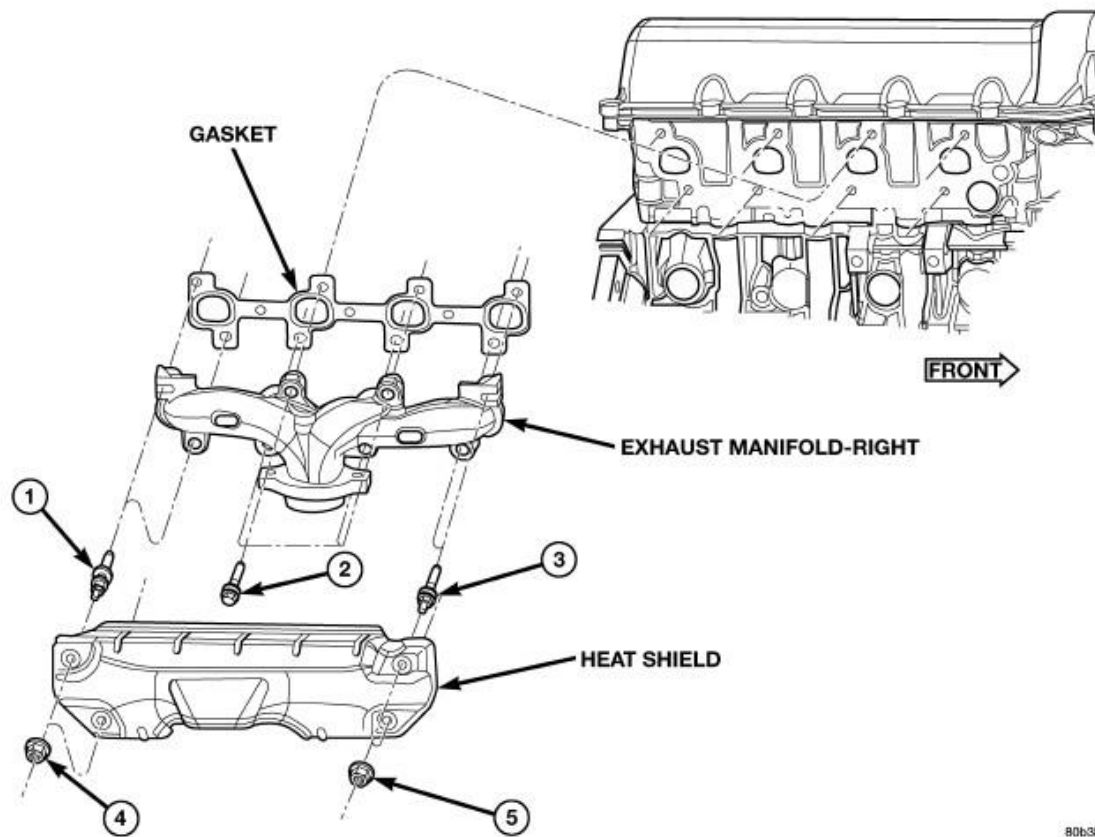

Fig. 206: Exhaust Manifold-Right
- Remove exhaust manifold and gasket . See **Fig. 206**. Manifold is removed from below the engine compartment.
1. Install exhaust manifold and gasket from below engine compartment. See **Fig. 206**.